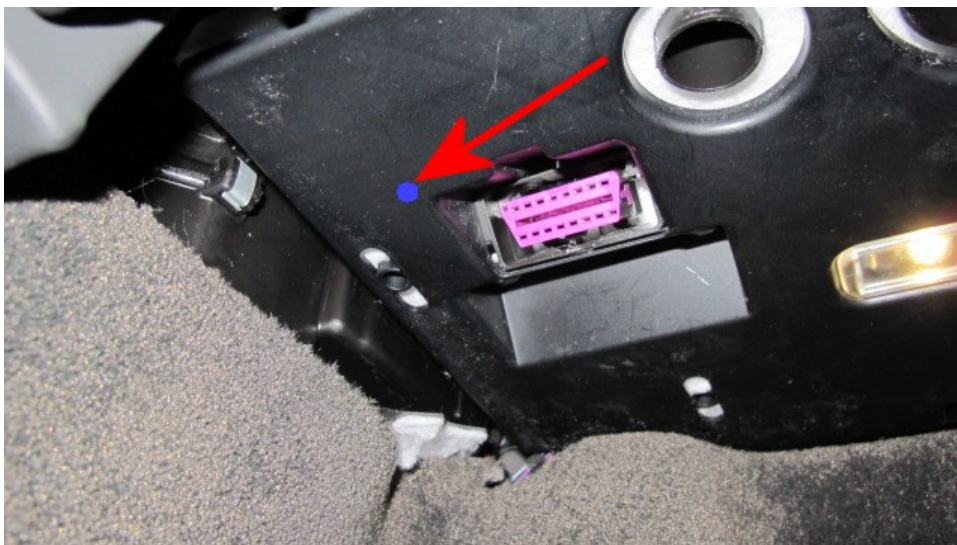

Figure 6
If the vehicle is not already listed as repaired in "Repair history" (in Elsa Pro) check the vehicle for the blue paint completion mark next to the diagnostic socket (Figure 6). If it is evident that the campaign has not been applied carry out the required work in accordance with these instructions.
- Once complete, place a blue paint completion mark next to the diagnostic socket (Figure 6)
Blue paint completion mark next to the diagnostic socket (Figure 6)